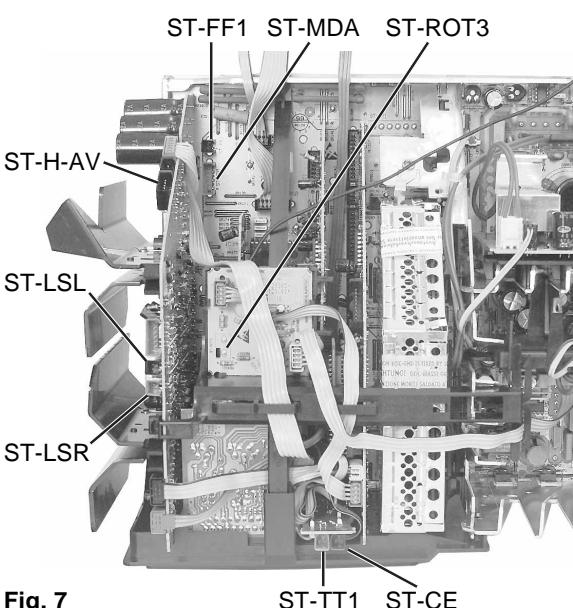

Fig. 7 ST-TT1 ST-CE
- Chassis in die Führungsschienen einschieben, dabei alle Leitungsverbindungen (Fig. 7) wieder anstecken und die gelösten Kabelbinder ersetzen.
- When undoing the 6 screws of the rear panel hold the rear panel and move it carefully to the top until the ground connection to the ground strap of the picture tube and the subwoofer lead ST-TT1 (Fig. 7) can be detached.
on the Dolby-Surround board ST-LSL, ST-LSR, ST-H-AV (Fig. 7),
on the click-fit socket board ST-CE (Fig. 7),
on the rotation board ST-ROT3 (Fig. 7), and
on the chassis ST-MDA, ST-FF1 (Fig. 7).
- Slide the chassis into the guide rails. In doing this, re-establish all lead connections (Fig. 7) and replace the disengaged cable clamps.